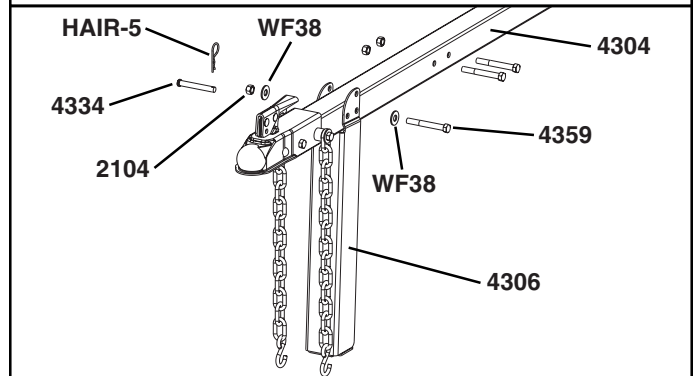

Figure 2a
5. Next, attach kickstand (4306) to tongue (4304) using one 3/8-16 x 3" bolt (4359), two 3/8" flat washers (WF38), one 3/8-16 bi-way locknut (2104), one 3/8" x 2.75" pin (4334) and one hair clip (Hair-5). Attach the kickstand to the tongue so that it will support the weight of the log splitter as you assemble the rest of the pieces. **DO NOT OVERTIGHTEN - MUST SWING FREELY.** See Figure 2a & 2c.